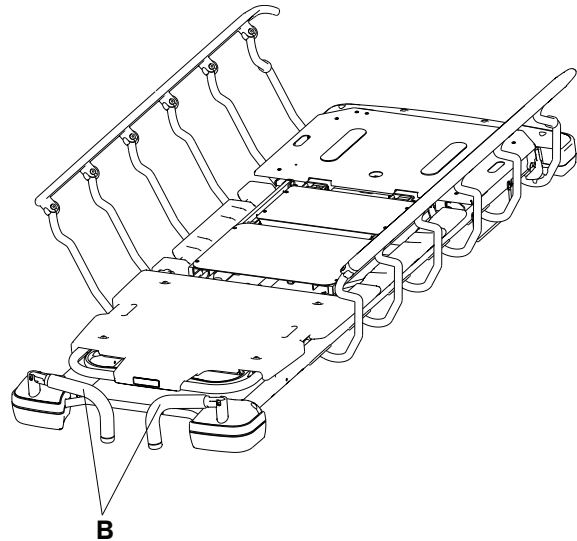

Figure 10 – Stowing the head end push handles
3. Reverse steps to stow the head end push handles (B) (Figure 10).